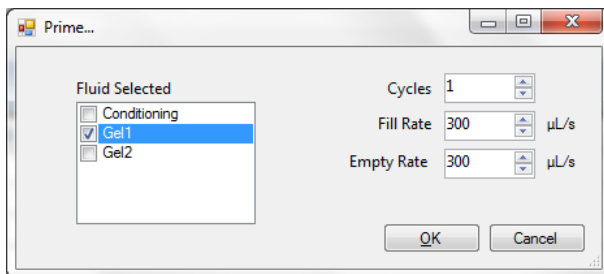

Figure 2. Prime menu
- 7 When switching applications (e.g., between kits), prime the appropriate gel fluid line after loading fresh Gel solution. From the main screen of the Fragment Analyzer control software, select **Utilities > Prime**. Select the desired fluid line(s) (Conditioning, Gel 1, or Gel 2) and press **OK** to purge the fluid line with fresh gel (Figure 2).